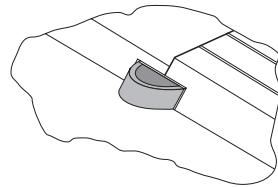

Figure 17
- Push the bolt past the pressure point in as far as the stop (Fig. 17).